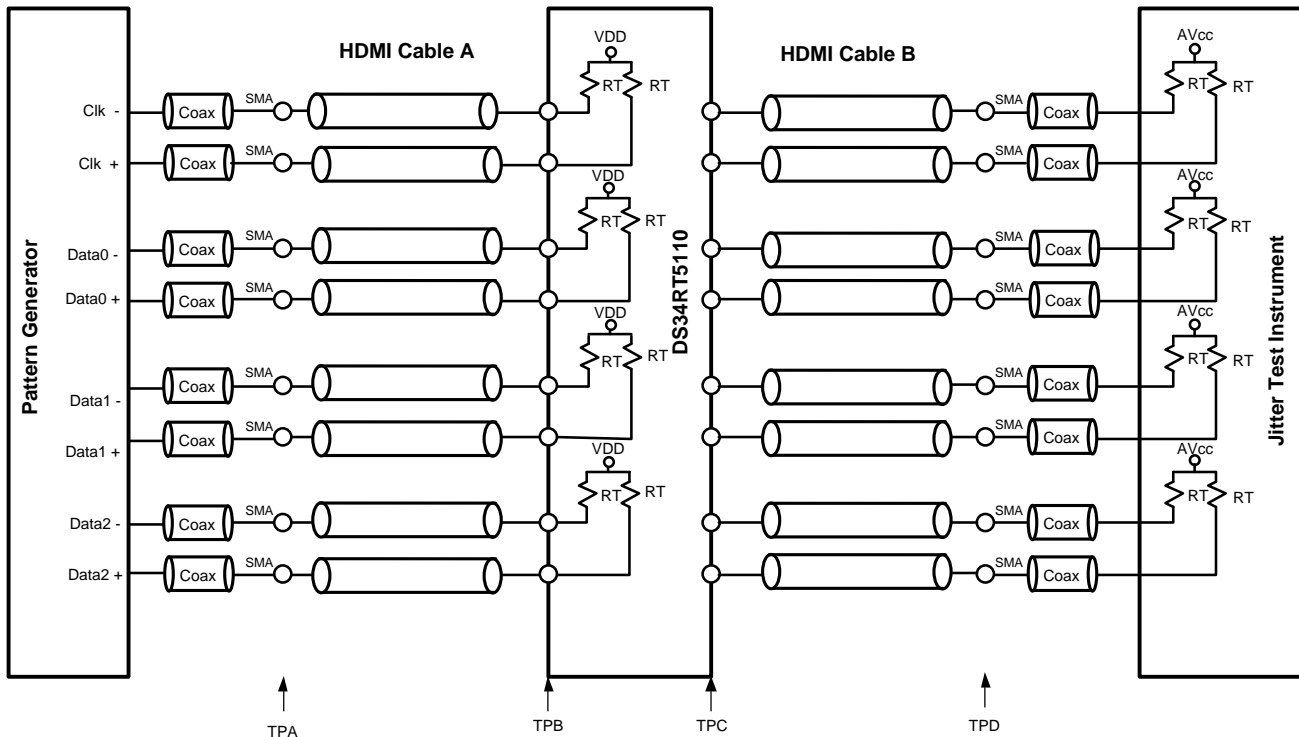

Figure 1. Test Setup Diagram
(3) Parameter is ensured by statistical analysis and/or design.
(4) Deterministic jitter is measured at the differential outputs (TPC of Figure 1), minus the deterministic jitter before the test channel (TPA of Figure 1). Random jitter is removed through the use of averaging or similar means.
(5) Total Jitter is defined as peak-to-peak deterministic jitter from + 12 times random jitter (ps).
(6) Random jitter contributed by the equalizer is defined as $\sqrt{J_{OUT}^2 - J_{IN}^2}$. J_{OUT} is the random jitter at equalizer outputs in ps-rms, see TPC of Figure 1; J_{IN} is the random jitter at the input of the equalizer in ps-rms, see TPA of Figure 1.
(7) Parameter is ensured by statistical analysis and/or design.
(8) Deterministic jitter is measured at the differential outputs (TPC of Figure 1), minus the deterministic jitter before the test channel (TPA of Figure 1). Random jitter is removed through the use of averaging or similar means.
(9) Total Jitter is defined as peak-to-peak deterministic jitter from + 12 times random jitter (ps).